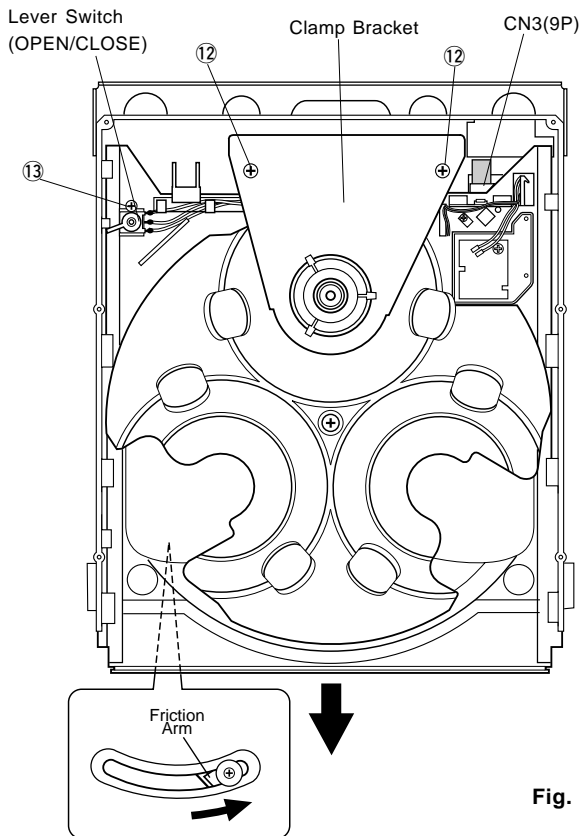

Fig. 10
- a. Remove 2 screws ( 12 ) and then remove the Clamper Bracket in Fig. 10.
- b. Remove 1 screw ( 13 ) and then remove the Lever Switch in Fig. 10.
- c. Disconnect the Flat Connecting Cable ( 9P ) in Fig. 10.
- d. Push the Friction Arm ( the bottom side of the CD Mechanical Unit ) with a screwdriver or the like and pull out the Tray forward as in Fig. 10.